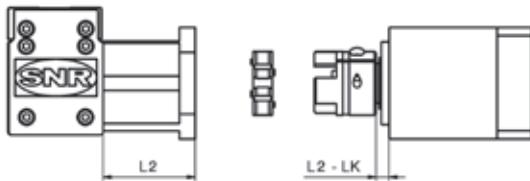

Figure 3.11 — Mounting dimension
2. Insert the coupling hub **3** on the drive or gearbox shaft **5**. The mounting dimension LK (Figure 3.11) from Table 6.23 in catalog Chapter 6.2.4.1 must be taken into account.